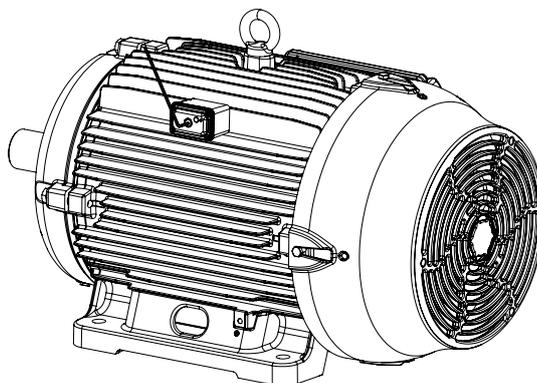

Figure 5.2: Detail of screwing the sensor into the knurled bushing.
4. Using a 3 mm Allen key, screw the sensor into the knurled bushing and check its tightness. The maximum tightening torque is 4.0 Nm. As shown in Figure 5.2 on page 5-1.
4. Using a 3 mm Allen wrench, screw the sensor into the knurled bushing and check its tightness. The maximum tightening torque is 4.0 Nm. Refer to Figure 5.2 on page 5-1.